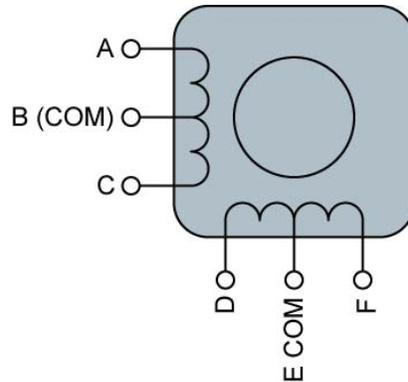

Figure 9: Wire Connection Diagram for a 6-Lead Unipolar Stepper Motor
- Unipolar motors generally have 6 leads – there are two windings with an internally connected common lead (Figure 9).